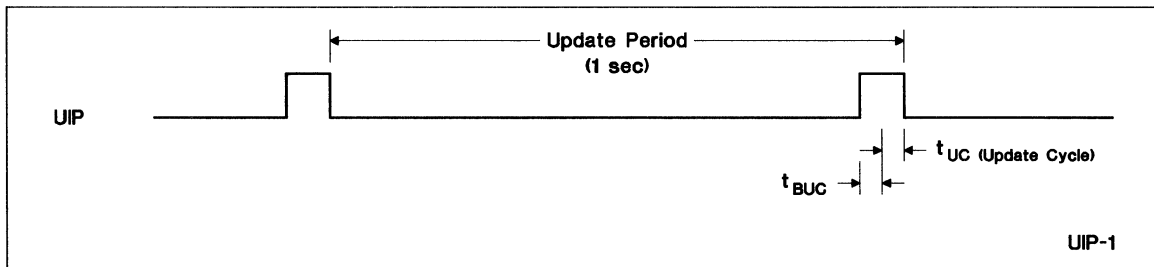

Figure 2. Update Period Timing and UIP
locations during the update cycle at the end of each update period (see Figure 2). The alarm flag bit may also be set during the update cycle.
The update-in-progress bit (UIP) in register A is set t_{BUC} time before the beginning of an update cycle (see Figure 2). This bit is cleared and the update-complete flag (UF) is set at the end of the update cycle.